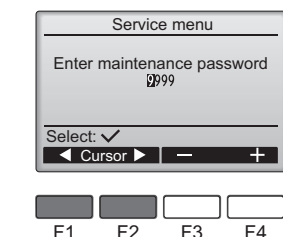

Fig. 7-2
① Select "Service" from the Main menu, and press the [SELECT] button.
② When the Service menu is selected, a window will appear asking for the password. (Fig. 7-2)